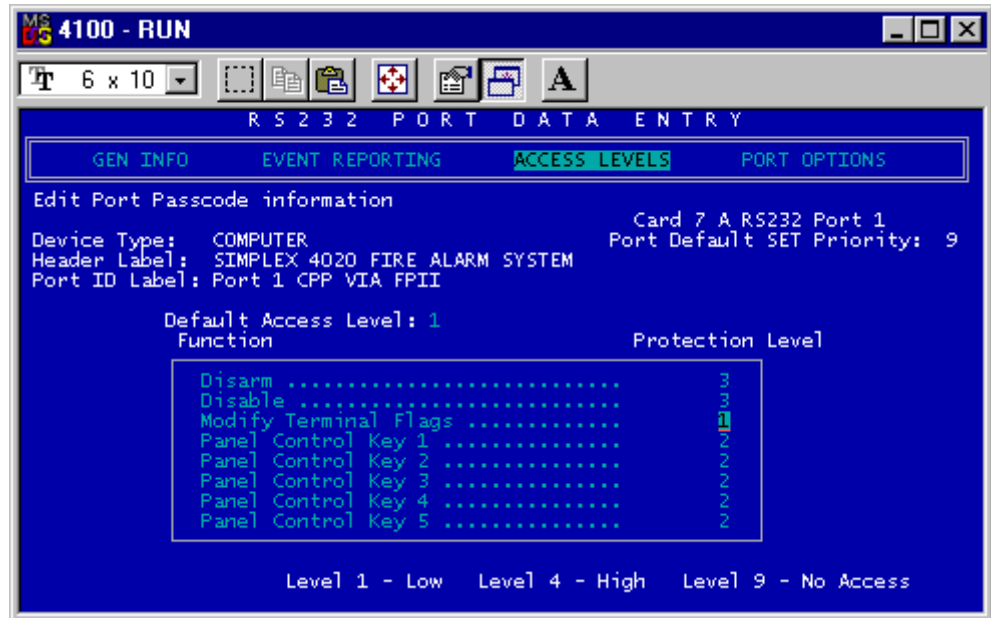

Figure 15. Access Levels Option
- After saving the option settings by using the Escape key and answering prompts, use the arrow keys to select **Access Levels** option (see Figure 15).